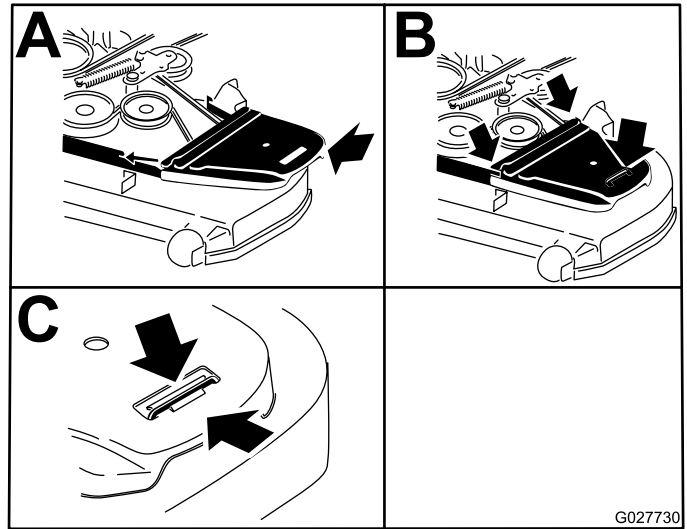

Figure 62
14. Install the belt covers (Figure 62).